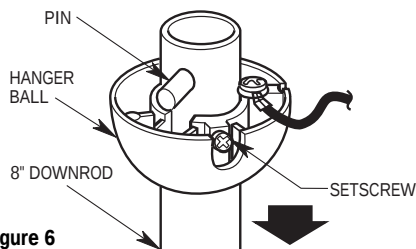

Figure 6
7. Remove the hanger ball by loosening the setscrew in the hanger ball until the ball falls freely down the 8" downrod (Figure 6). Remove the clevis pin from the downrod, then remove the hanger ball. Retain the pin and hanger ball for reinstallation in Step 13.
It is critical that the clevis pin in the motor coupling is properly installed and the two setscrews securely tightened. Failure to verify that the pin and setscrews are properly installed (as shown in Figure 6) could result in the fan falling.